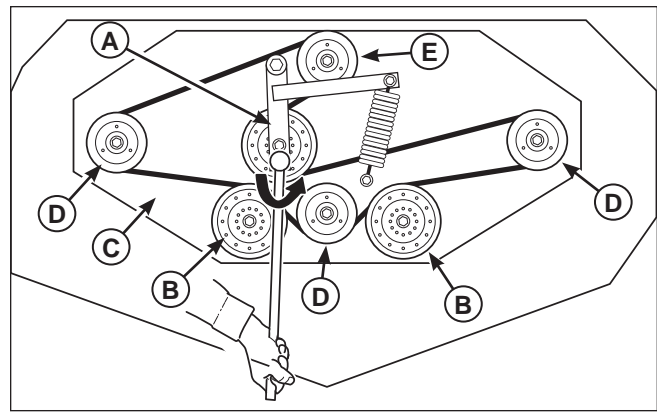

Figure 48. Mower PTO Belt
3. Using a 1/2" breaker bar, place the square end in the square hole located in the end of the idler arm (**A**, **Figure 48**). Carefully rotate the breaker bar COUNTER-CLOCKWISE, which will relieve the tension on the belt exerted from the idler arm.